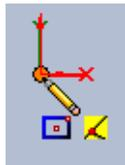

Figure 40 Center rectangle icon at origin with coincident icon to its right
- 5 Position the pointer in the graphics area at the origin. The center rectangle icon is attached to the pointer, and the coincident icon is to its right. See Figure 40.